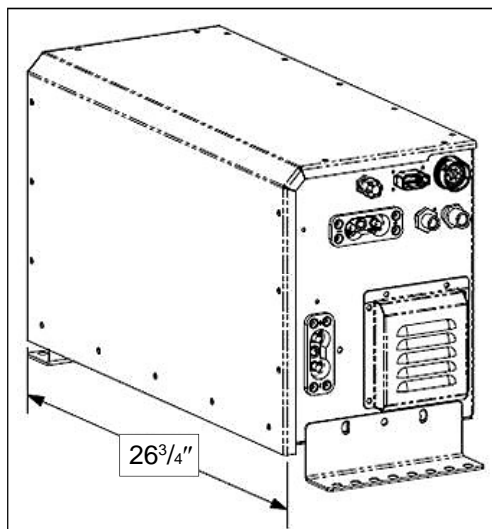

Figure 2 — JEMS 4 Unit
- JEMS 4 — Altec p/n 990180697 and ZeroRPM p/n 7700-00005 (refer to Figure 2)